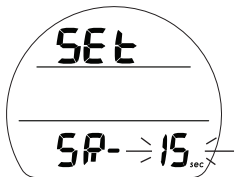

Fig. 34 - SET SAMPLING
Set Sampling Rate (SR), information includes (Fig. 34):